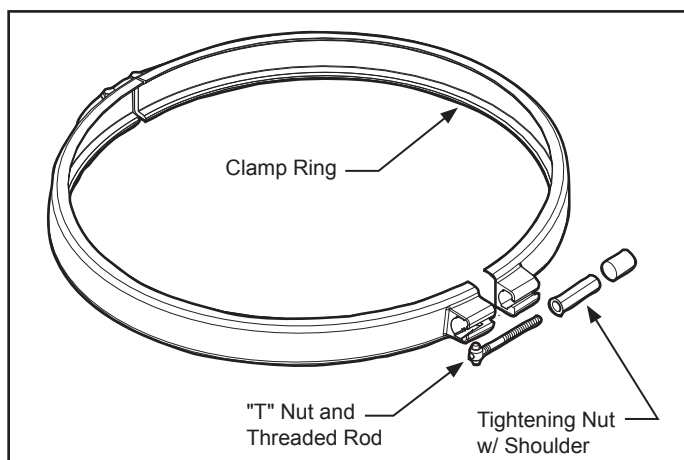

Figure 6. Filter Clamp Ring
1. Be certain that the o-ring seat is clean and that the o-ring is in position in the lower tank half. Press the filter lid onto the lower half, sandwiching the o-ring between the two (2) halves.
3. Place the "T" nut and threaded rod assembly into the clamp. Be sure the "T" nut is seated in the clamp in the proper orientation. See Figure 6.